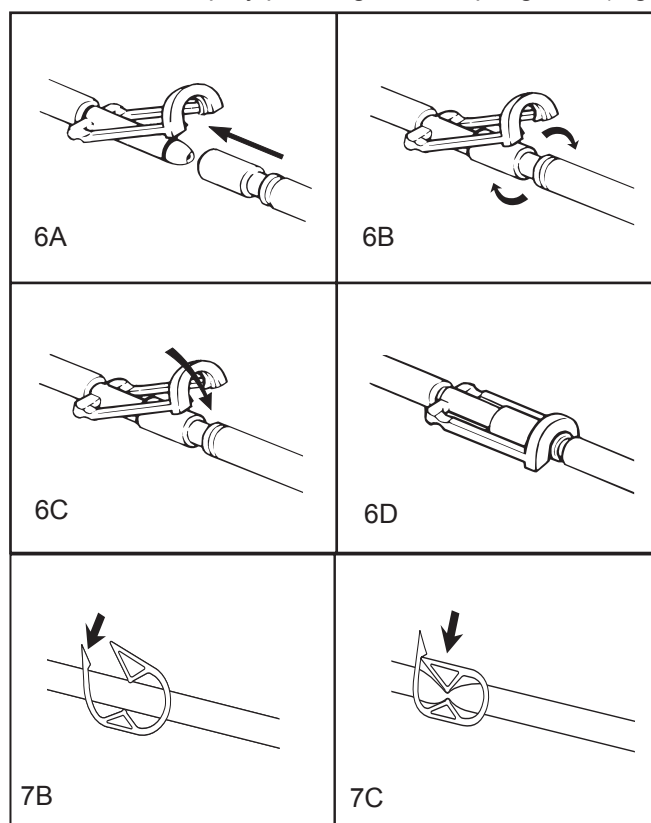

Figure 6: Clik-Tite® Connectors
5. Coil the hose, and attach the Klik-Tite® connectors together on the hose (See Figure 6, Page 11), where applicable.